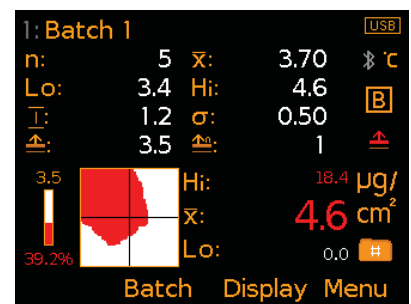

Fig. 7: Statistics & Pass/Fail Map
- **Pass/Fail Mapa** (Fig. 7); Provides a visual indication of salt contamination. Areas where soluble salts levels are above the limit set are shaded red, areas below the limit are white. The measurement bar to the left of the pass/fail map displays the limit (above the bar) and the percentage test area above the defined limit (below the bar). The bar is also a visual indication of the pass/fail percentage. The highest (Hi), lowest (Lo) and average ( $\bar{x}$ ) reading for the current measurement are displayed to the right.